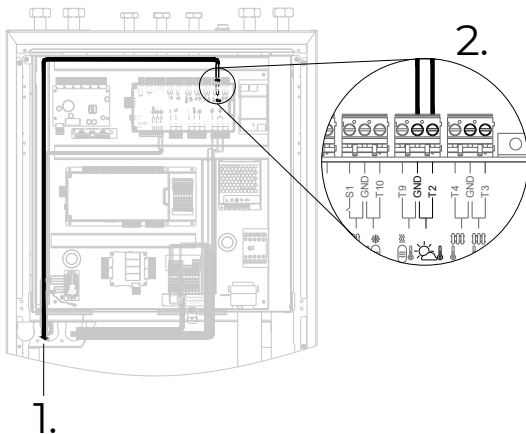

Figure 24: Priklop kabla tipala zunanje temperature zraka
1. Thread the sensor cable through the cable channel on the left side to the terminals (Figure 24).